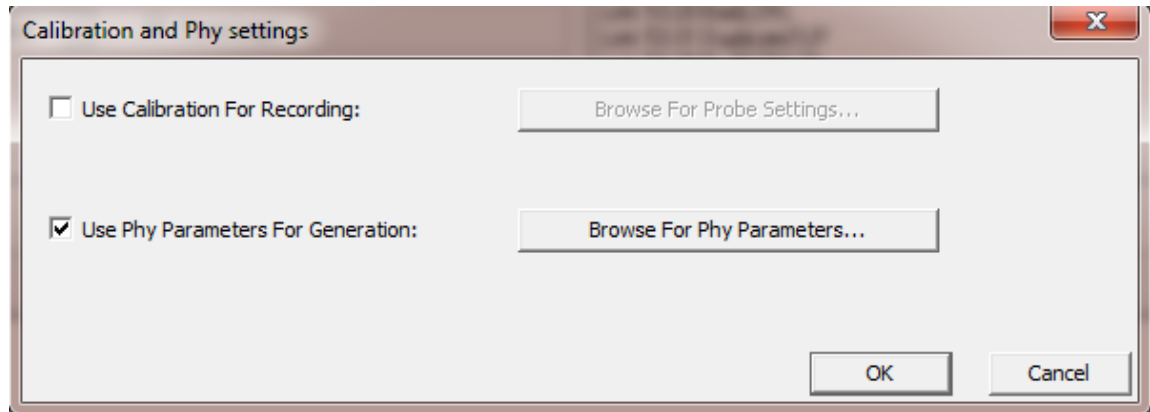

Figure 3.6: Calibration selection.
**Calibration/PhyParam:** If the link needs different calibration than the default, you can use the **Calibration/PhyParameters** button to browse to the location of your calibration file. See Figure 3.6.